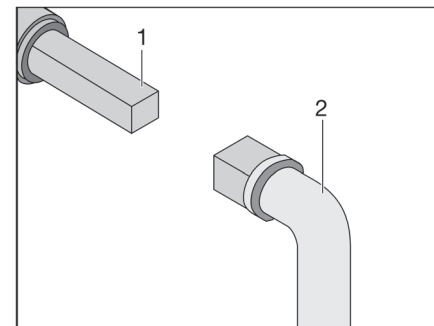

Fig. 179 Operation of the waste water tap
- Place key (Fig. 179,2) onto the square bolt (Fig. 179,1).